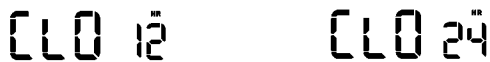

Figure 9: Clock 12 hour (L) or 24 hour (R) display
1. Press **user pref** until the preset **12hr clock display** mode appears. See Figure 9 (L) below.
2. Use **hi +** or **lo -** on either side of the zero (0) on the numeric keypad to toggle to the **24hr** option.